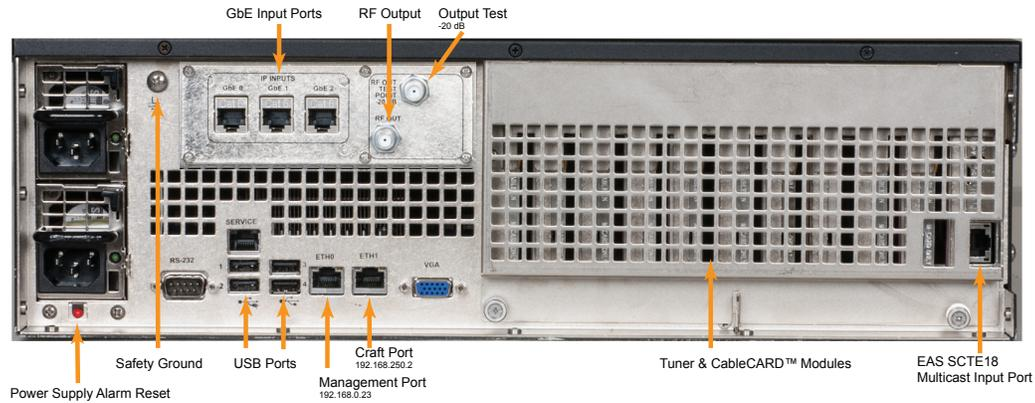
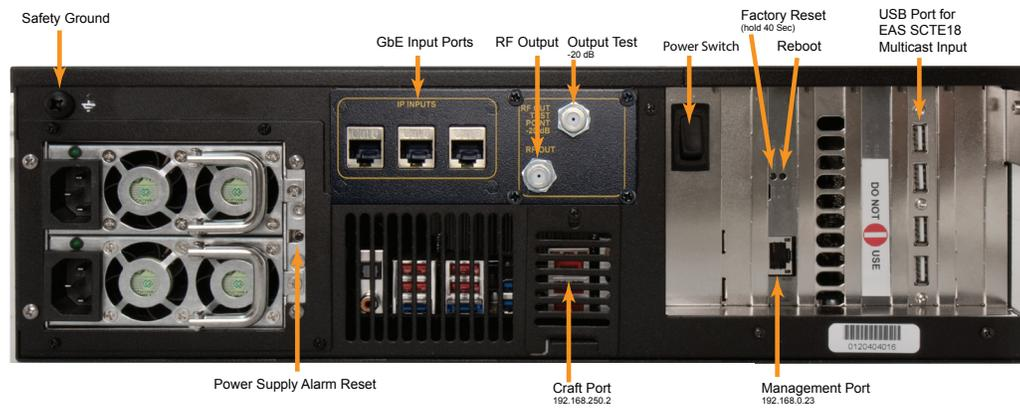
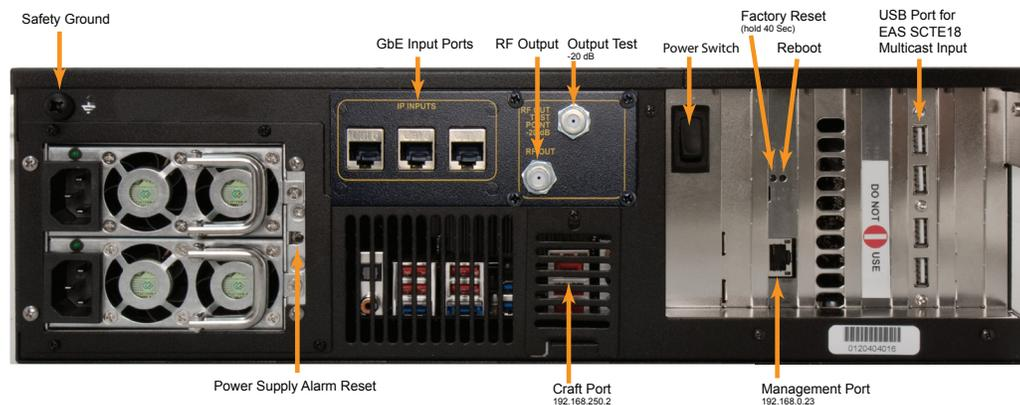

Figure 3-7: Version 3 IP to QAM
Figure 3-8: Version 2 IP to QAM
Figure 3-9: Version 2 IP to QAM
**Table 3.5a: Rear Panel Connections - IP to QAM (See Figure 3-7, Figure 3-8 & Figure 3-9)**